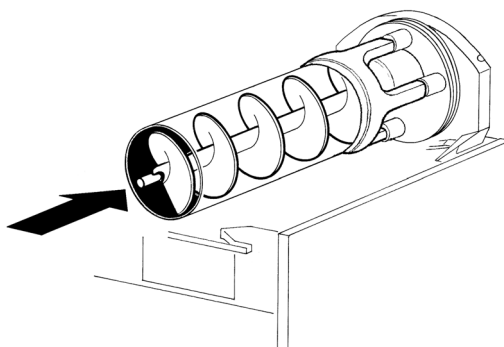

figure 12
- 5 Insert the auger into the evaporator taking care to accompany it to the end so as to prevent it from hitting against the rear wall (see figure 12).